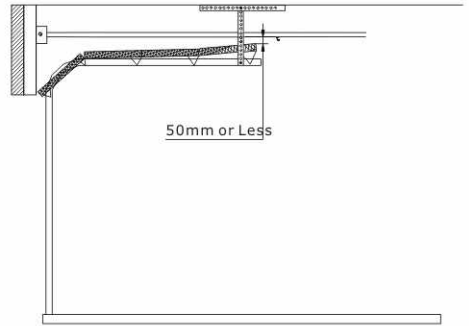

Fig. 7
- Mounting the Drive Rail more than 50mm above the Highest Arcing Point of the garage door may cause the Drive Rail to flex excessively. Always ensure that the bottom edge of the Drive Rail is located within 50mm of the top edge of the top panel of the garage door. (Fig.7)**
- Raise the Drive Rail assembly off the floor and rest it on a support high enough that the Drive Rail runs parallel to the ground. (Fig.7) depicts typical sectional type garage door installation)
- Slide the Drive Rail Hanger along the drive rail (up to max 600mm from the Control Box) in order to align it with a structural member of the garage. Securely fasten the Drive Rail Hanger to the structural member of the garage using two lengths of appropriate hanging material. (Fig.7)
- a. With the garage door in the fully open position the underside of the Drive Rail should be no more than 50mm above the highest arcing point for its entire length. Mounting the Drive Rail more than 50mm above the Highest Arcing Point of the garage door may cause the Drive Rail to flex excessively. (Fig. 7)